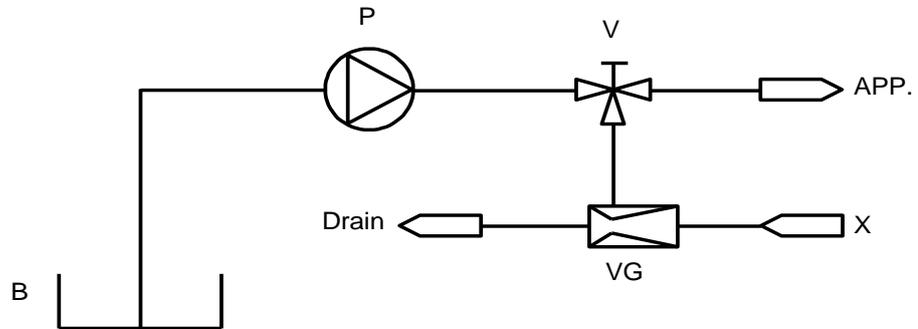
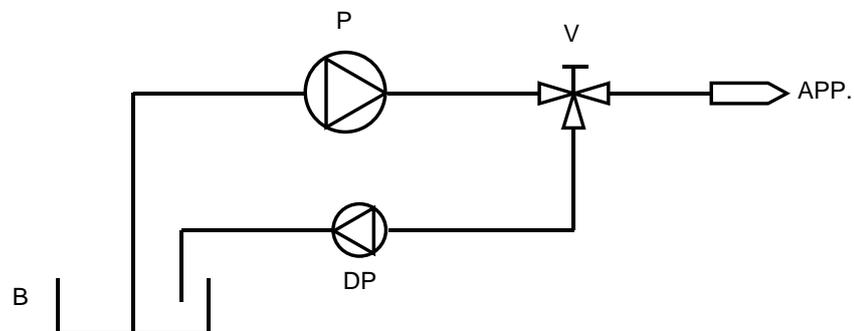

Figure 5: Priming with venturi (aspirator) down-stream from the main pump
Figure 6 Priming with diaphragm pump down-stream the main pump
Figure 5 shows the priming configuration with a 3-way valve which is positioned down-stream from the main pump.
In Figure 5 the outlet of the venturi is sent to drain. Depending on the liquid that is pumped and the medium used to generate the vacuum, the output could also be directed back into tank (B). Since a diaphragm pump does not add any other liquid or gas to the chemistry, it is the preferred priming pump whenever it is not possible or desired to go to drain (see Figure 6).